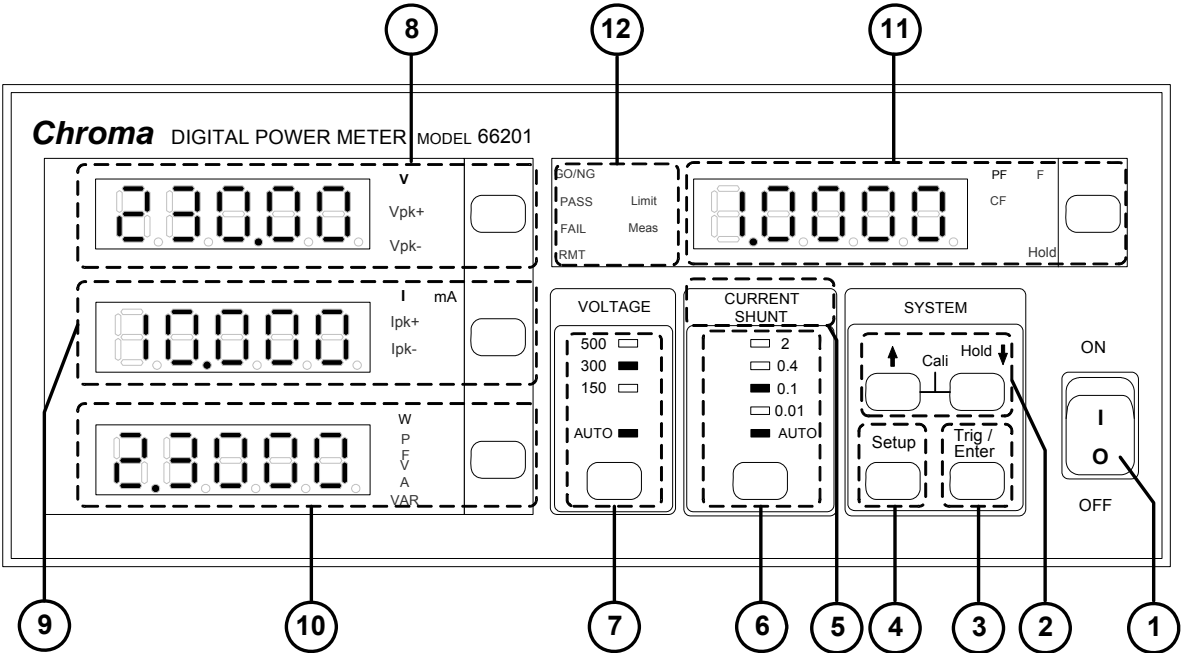
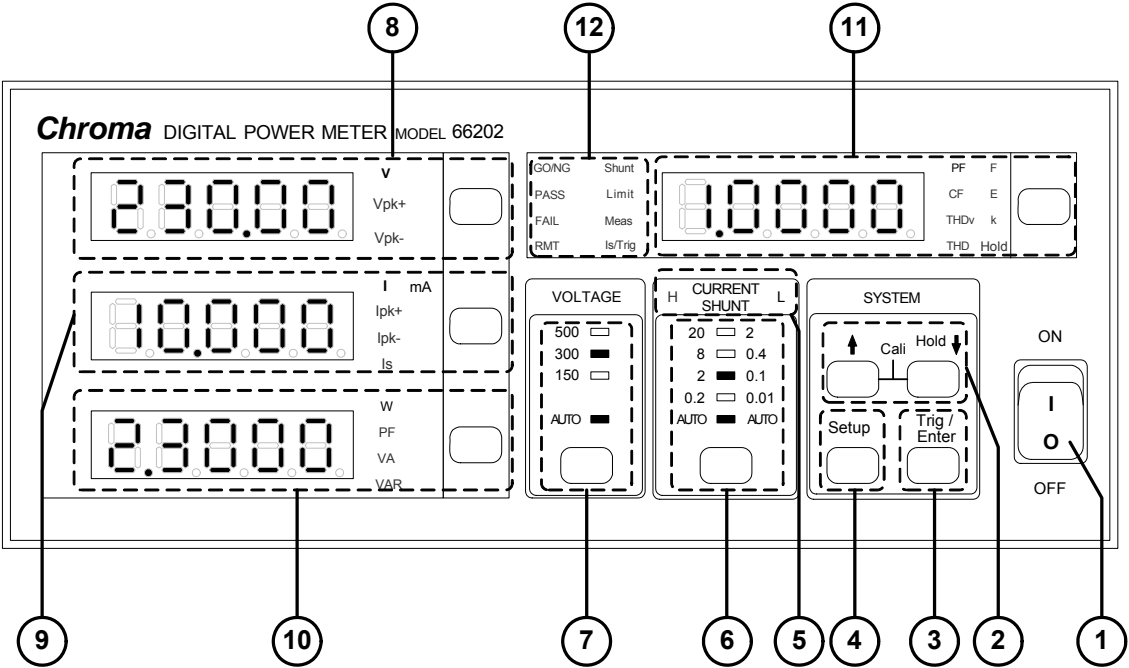

Figure 3-1 Front Panel of 66201 Digital Power Meter
Figure 3-2 Front Panel of 66202 Digital Power Meter
Figure 3-1 and Figure 3-2 show the front panel of 66201 and 66202 digital power meters with parts described from item (1) to (12) as listed below. For detail operation procedures, see Chapter 4 for more information.